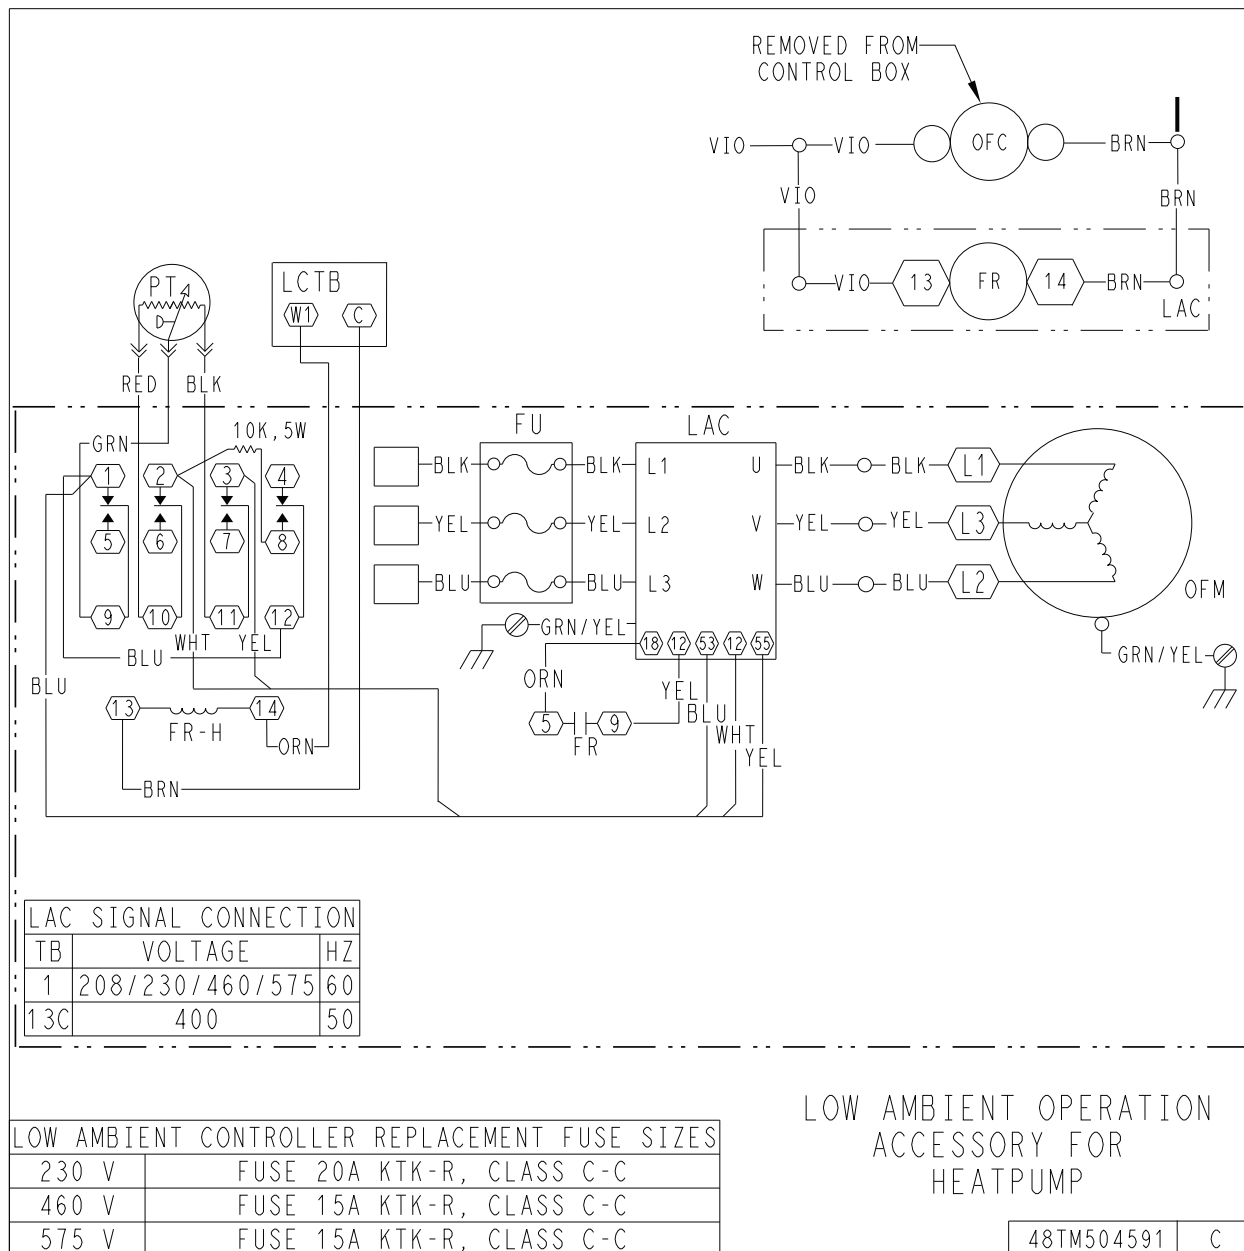

Fig. 6 — Wiring Diagram — Heat Pump Only
The following wiring refers to Fig. 6 (wiring diagram) and Fig. 7 (second relay).
- d. For 400-3-50 units, move the orange control wire from TB-1 to TB-13C on the LAC as indicated in Fig. 6.